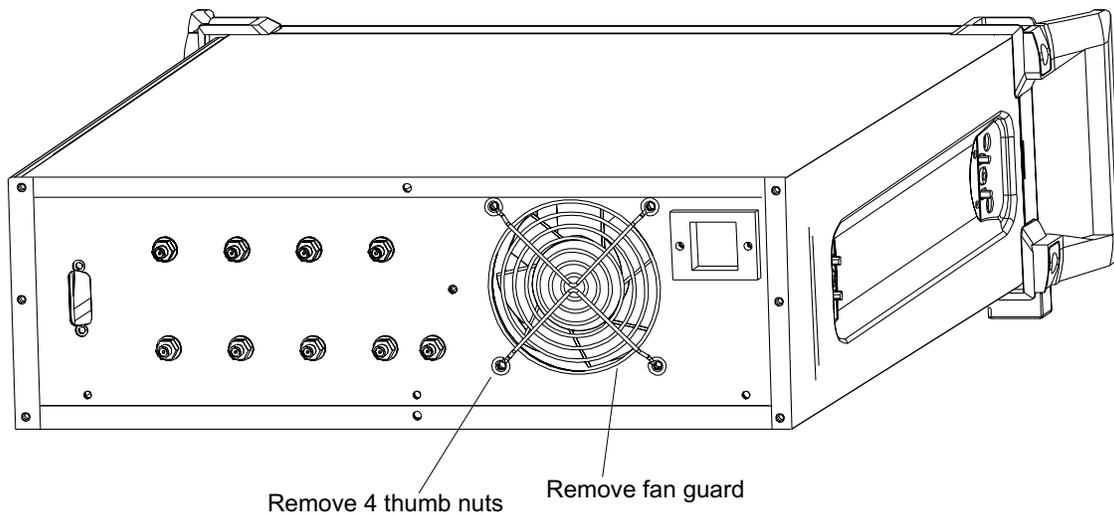

Figure 5-11. *Fan Guard Removal*
- Step 2.** Remove four thumb nuts holding fan guard in place (Figure 5-11).